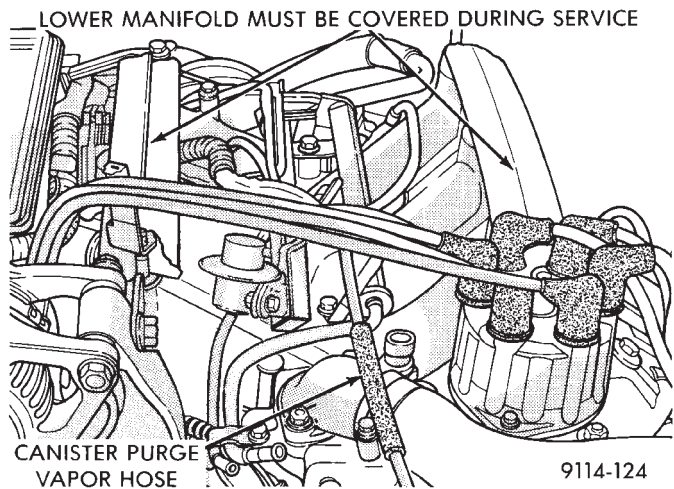
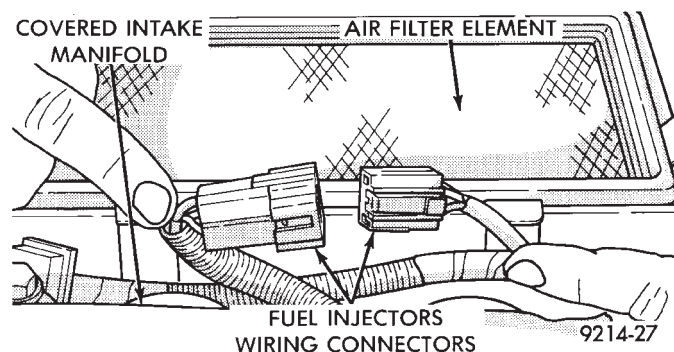

Fig. 10 Vacuum Connections for Fuel Rail and Fuel Pressure Regulator
Fig. 11 Fuel Injector Wiring Harness
(13) Remove Air Intake Plenum (Fig. 10).
(14) Cover intake manifold with suitable cover when servicing.
(15) Remove vacuum hoses from fuel rail and fuel pressure regulator (Fig. 11).
(8) Install fuel supply and return tube hold-down bolt and the vacuum crossover tube hold-down bolt and torque to 10 N•m (95 in. lbs.).
(9) Connect fuel injector wiring harness to engine wiring harness (Fig. 11).
(10) Connect vacuum harness to fuel pressure regulator and fuel rail assembly (Fig. 10).
(11) Remove covering from lower intake manifold and clean surface.
(12) Place intake manifold gaskets **with beaded sealant side up** on lower manifold. Put air intake in